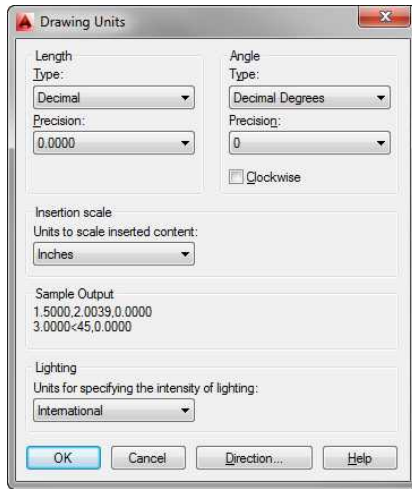

FIGURE 3.2: The Drawing Units dialog box
3. Choose Application menu > Drawing Utilities > Units to open the Drawing Units dialog box (UNITS command) shown in Figure 3.2. In the Length group, Decimal is currently selected. Similarly, in the Angle group, Decimal Degrees is the default.